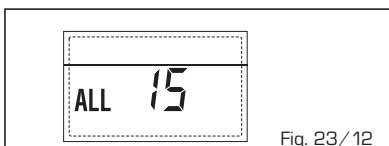

Fig. 23/12
- **ANOMALIA SONDA EXTERNA "⚠ INTERMITÊNCIA" (fig. 23/13)**